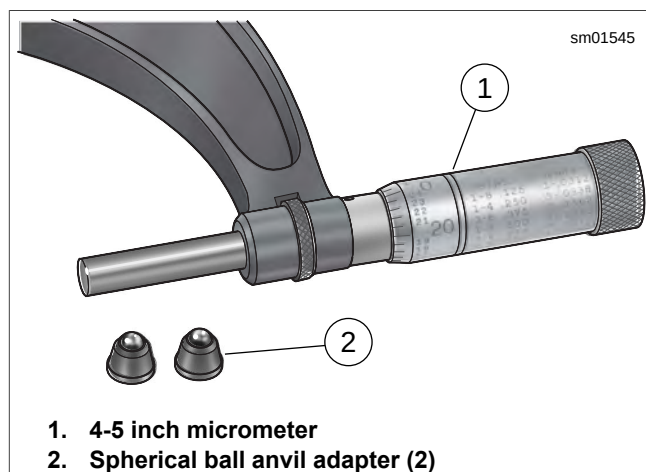

Figure 3-75. Micrometer with Anvil Adapters
- See Figure 3-75. The oval openings are too small for a standard flat anvil micrometer. Use a 3-4 inch blade or ball anvil style micrometer, or a 4-5 inch micrometer with spherical ball anvil adapters.